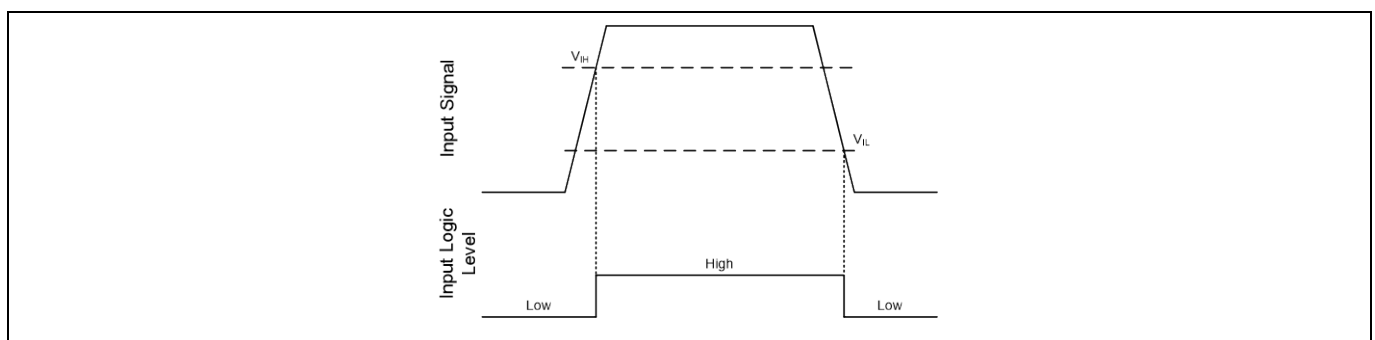

Figure 12 IN input thresholds
The input pins of are based on a TTL and CMOS compatible input-threshold logic that is independent of the Vcc supply voltage. With typical high threshold (V_{IH}) of 2.1 V and typical low threshold (V_{IL}) of 0.9 V, along with very little temperature variation as summarized in Figure 12, the input pins are conveniently driven with logic level PWM control signals derived from 3.3 V and 5 V digital power-controller devices. Wider hysteresis (typically 0.9 V) offers enhanced noise immunity compared to traditional TTL logic implementations, where the hysteresis is typically less than 0.5 V. 2ED218x family also features tight control of the input pin threshold voltage levels which eases system design considerations and ensures stable operation across temperature. The 2ED218x features floating input protection wherein if any of the input pin is left floating, the output of the corresponding stage is held in the low state. This is achieved using pull-down resistors on the input pin (IN) as shown in the block diagram. The 2ED218x family has input pins that are capable of sustaining voltages higher than the bias voltage applied on the Vcc pin of the device.